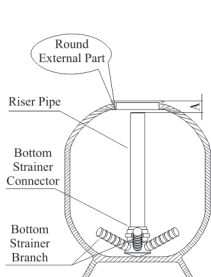

Figure 1-1
- ①The filter should be located closely to drain.
- ②Ensure the unit is installed in enough space for operating and maintenance.
- ③The unit should be kept away from the heater, and not be exposed outdoor. Sunshine or rain will cause the system damage.
- ④Please avoid installing the system in one acid/alkaline, magnetic or strong vibration circumstance, because above factors will cause the system disorder.
- ⑤Do not install the device, drain pipeline in circumstance which temperature may drop below 5℃, or above 50℃.
- ⑥Install the system in the place where with minimum loss in case of water leaking.
C. Pipeline installation, take F139A as example**①Install control valve**
- a. As the Figure 1-1 shows, glue the riser pipe and bottom strainer. Put it into the bottom of the tank, and then assemble the bottom strainer. The size from the mouth of the tank to the surface "A" end of the riser pipe is 42-52mm, and cut off excess riser pipe and round it.